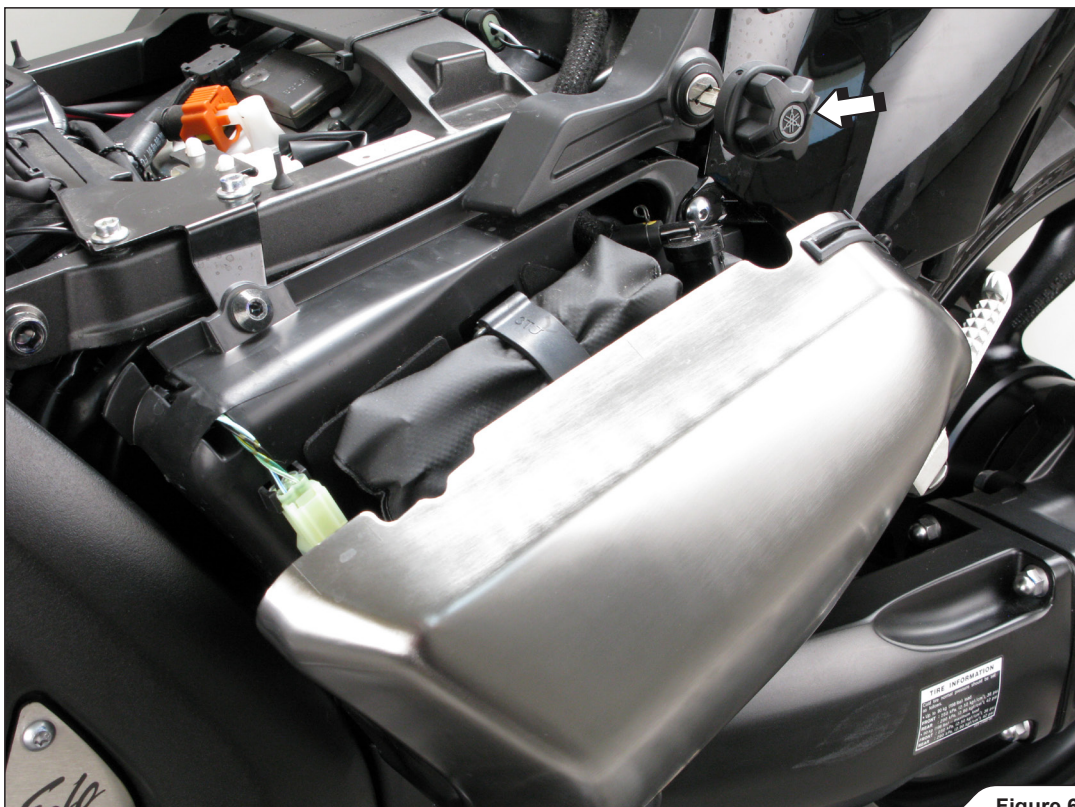

Figure 6
6. For OPEN SLIP-ON only: unlock the left side panel with ignition key and remove the left side panel (Figure 6).